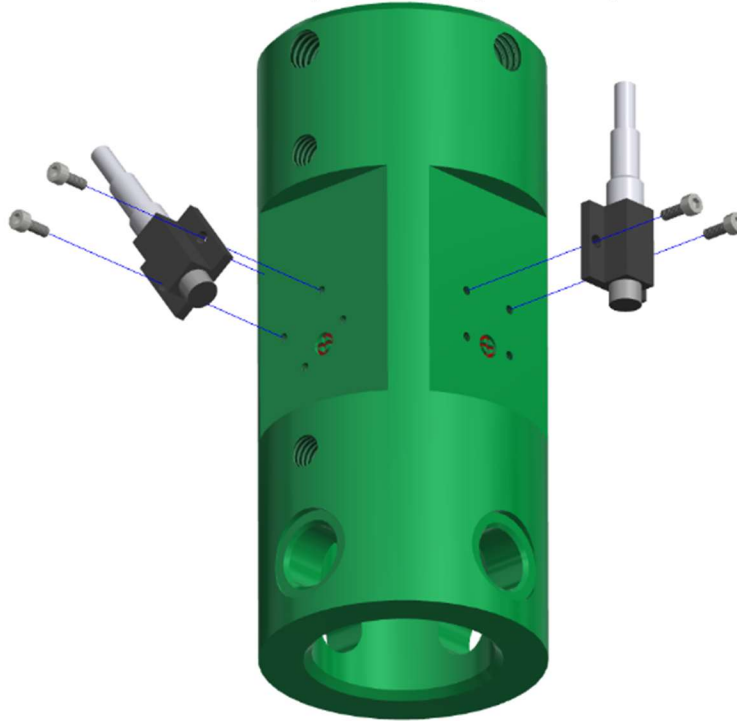

Figure 10-56. Attach the two accelerometers from the Lower Tibia Shaft
- 10.3.21 Attach the two accelerometers to the Lower Tibia Shaft (474-5540-1,2) using two M1.4 X 0.3 X 4 LG. SHCS per accel (Figure 10-56).